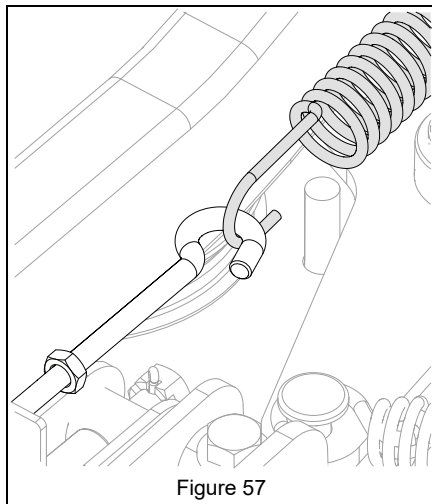

Figure 57
4. Raise deck to transport position and reconnect lift-assist springs. See Figure 57.